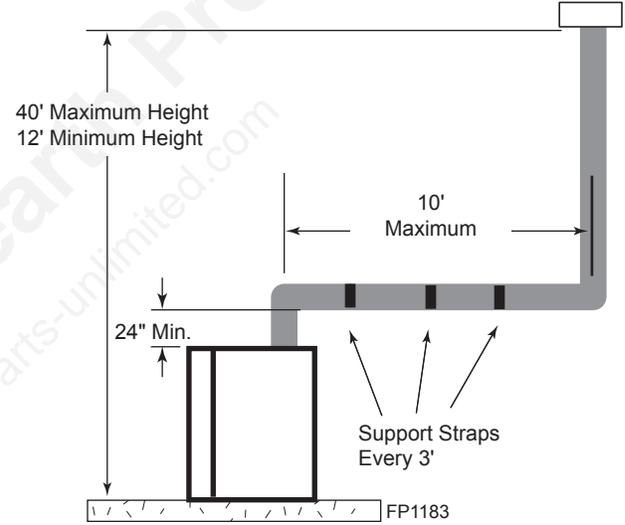

Figure 22 - Support Straps for Horizontal Runs
NOTE: If an offset is needed to avoid obstructions, you must support the vent pipe every three (3) feet. Use wall straps for this purpose. Refer to Page 18, Figure 22. Whenever possible, use 45° elbows instead of 90° elbows. The 45° elbow offers less restriction to the flow of the flue gases and intake air.